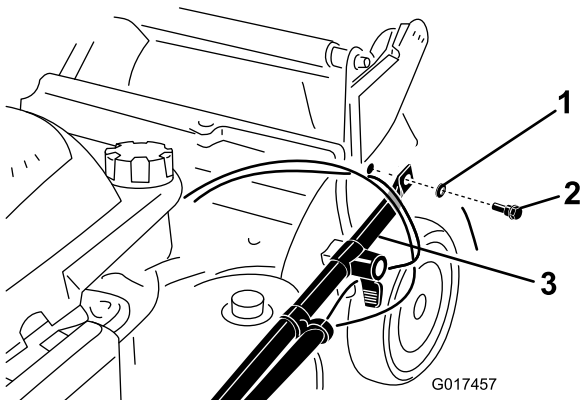

Figure 3
2. Attach the handle ends to the machine housing with 2 washers and 2 handle bolts (Figure 3), but do not tighten the handle bolts.
Important: Route the cables to the *outside* of the handle (Figure 3).